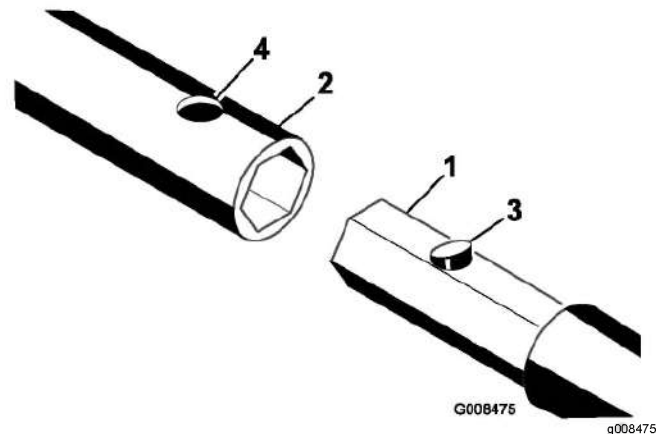

Figure 3
3. Slide the hex shaft of a rod, boring bit, or reamer into the socket. Align the hole in the socket with the push button connector (Figure 3).
4. Press down the push button connector and push the shaft into the socket until the connector snaps into the hole in the socket (Figure 3).